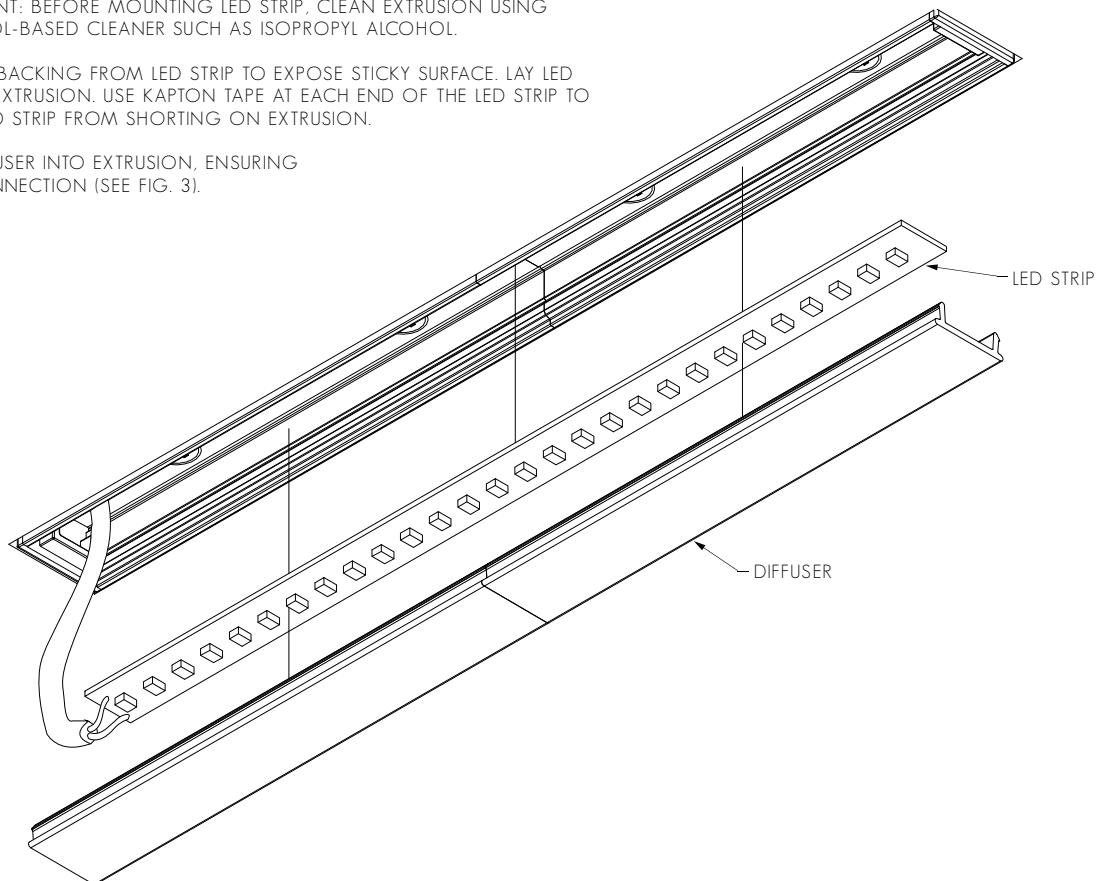

FIG. 3 - ENSURE DIFFUSER IS MOUNTED SECURELY
3. CLIP DIFFUSER INTO EXTRUSION, ENSURING A FIRM CONNECTION (SEE FIG. 3).